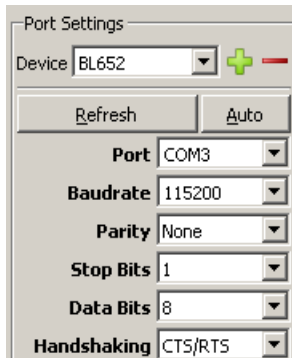

Figure 2: Setting connection parameters
8. From the Config tab in Device drop-down menu, select **BL652** to populate the baud, parity, stop bits, data bits, and handshaking settings. If “BL652” is not selectable, set the configuration as shown in Figure 2.